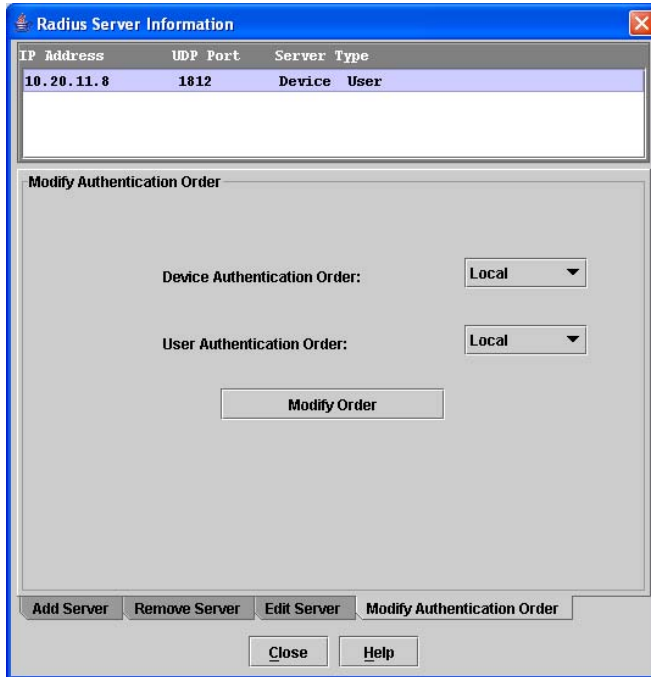

Figure 13 RADIUS Server Information dialog — Modify Authentication Order tab page
2. Click the **Modify Authentication Order** tab in the Radius Server Information dialog shown in Figure 13.